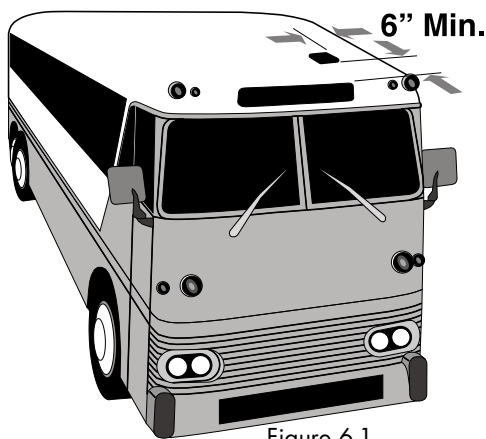

Figure 6-1
- 5) Maintain a minimum of 6 inches from any rooftop edge or ledge, see fig. 6-1.